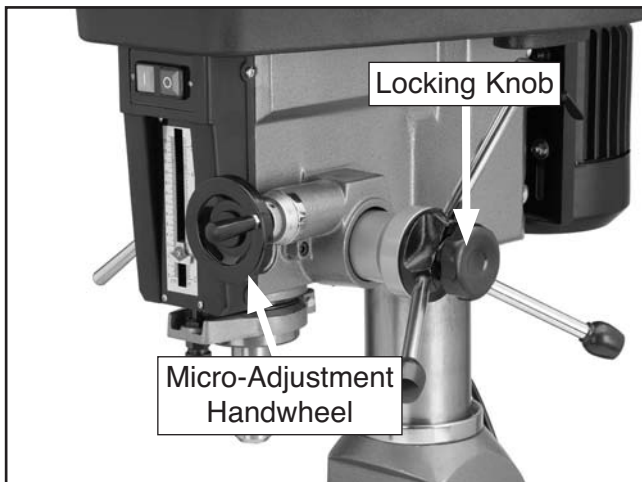

Figure 29. Micro-adjustment handwheel.
1. Tighten the locking knob located on the center of the hub for the down-feed levers (**Figure 29**).